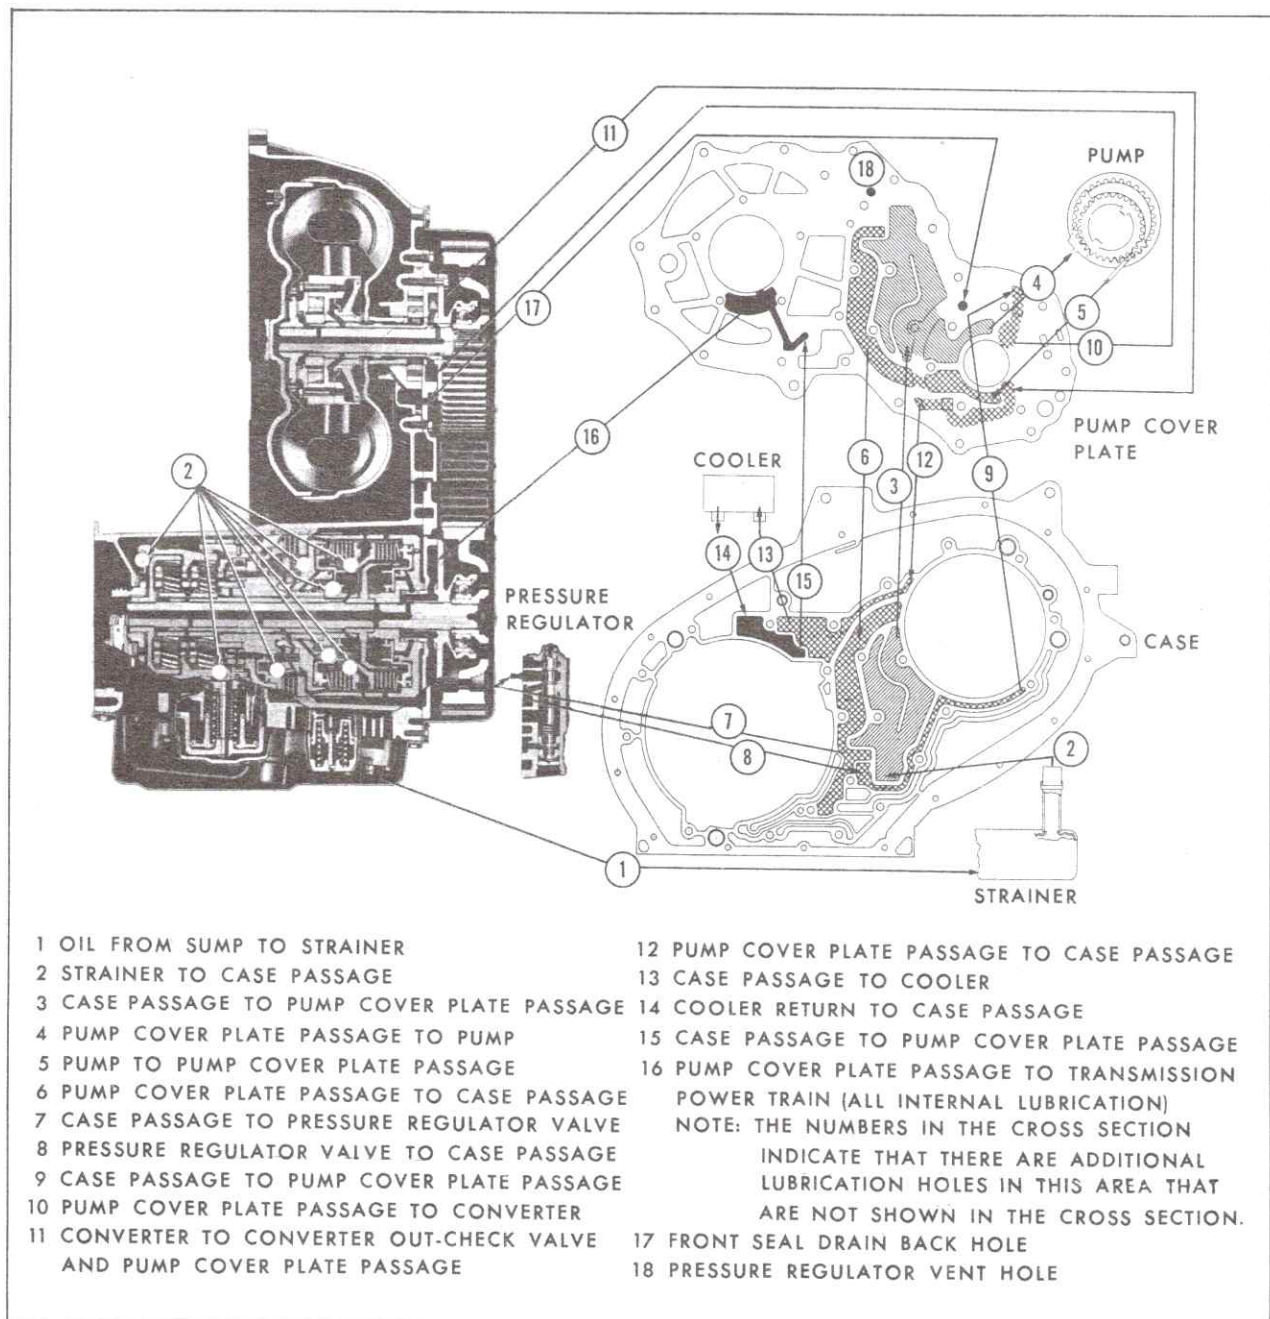

Fig. 7-128 Lubrication Chart
1. Figures 7-128 through 7-131 are to be used in place of Figure 7-20 and 7-21 when diagnosing a Fleetwood Eldorado Turbo Hydra-matic transmission.